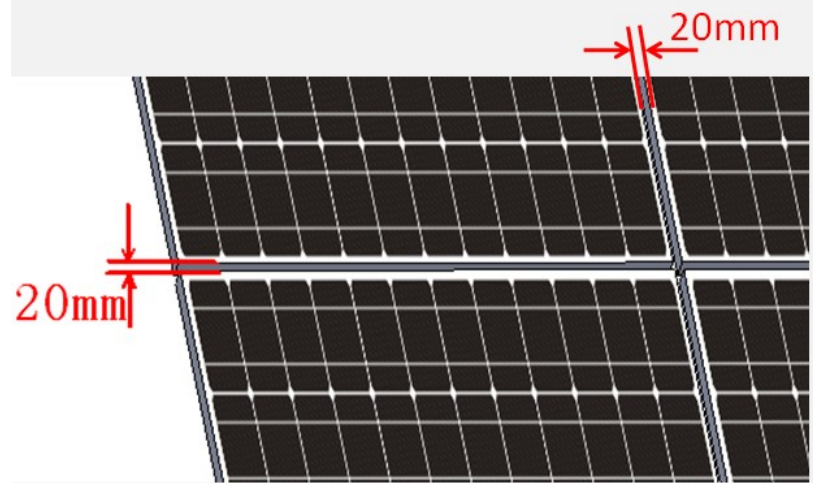

Figure 16
4.5.3 Fix the rest of PV-Module according to the sequence: from low to up, from left to right. Make the side faces of PV-Module tightly against Clamps as shown in Figure 18. Any adjacent side face of PV-Module keep the distance of 20mm, as shown in Figure 16.